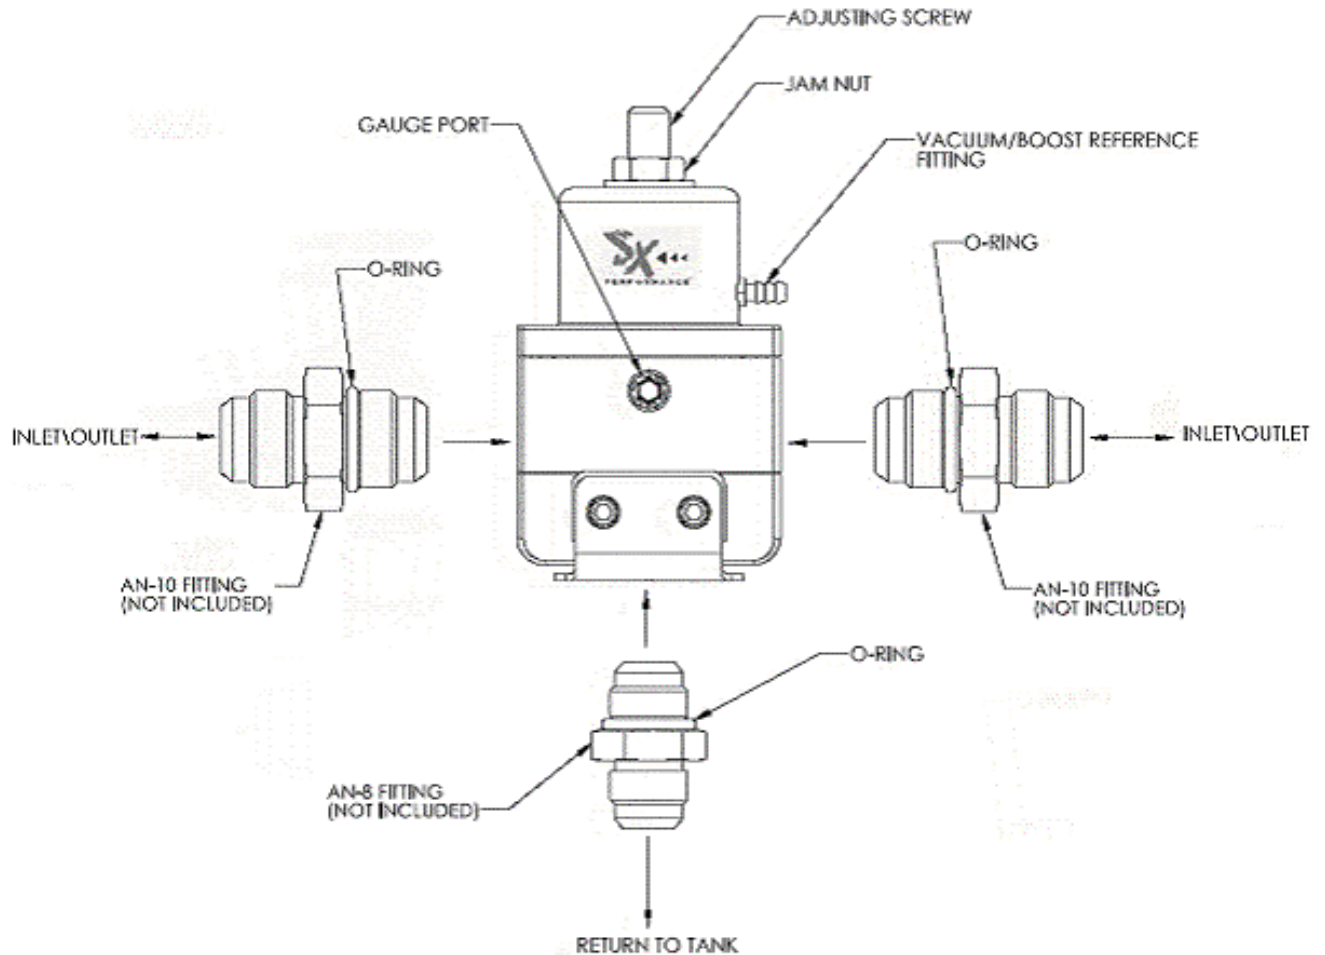

Figure 1 – SX Performance™ Model 15411 Fuel Pressure Regulator
5. Install the o-rings and fittings as shown in Figure 1. AN style fitting threads use no thread sealer.
6. Assemble the bracket and regulator as shown in Figure 1 and install the regulator and bracket assembly at the desired location.
7. Connect and tighten fittings to the inlet and outlet fuel lines, see Figure 1. Connect the return line to the bottom return port of the regulator. The bottom port (labeled return in figure 1.) must be used and is not interchangeable with the inlet/outlet ports. The regulator must be plumbed from this port to the fuel tank. The return line must be at least 1/2" line size (-8) or larger, and plumbed using AN-8 union fitting, or a reducer fitting from the bottom port of the regulator to the fuel tank or cell. Avoid sharp bends and 90° fittings where possible. This would result in a restriction on the return fuel flow and will cause the fuel pressure to remain high, not allowing adjustment to the
8. Coat the threads of the boost reference/vacuum fitting with thread sealer (not supplied) and install it into regulator port as shown in Fig. 1. Check for leaks around threads after curing. Connect the vacuum line to the boost reference/vacuum fitting on the regulator if so equipped. If no boost/vacuum reference is being utilized, leave the fitting or hole in the regulator cover open to atmosphere.